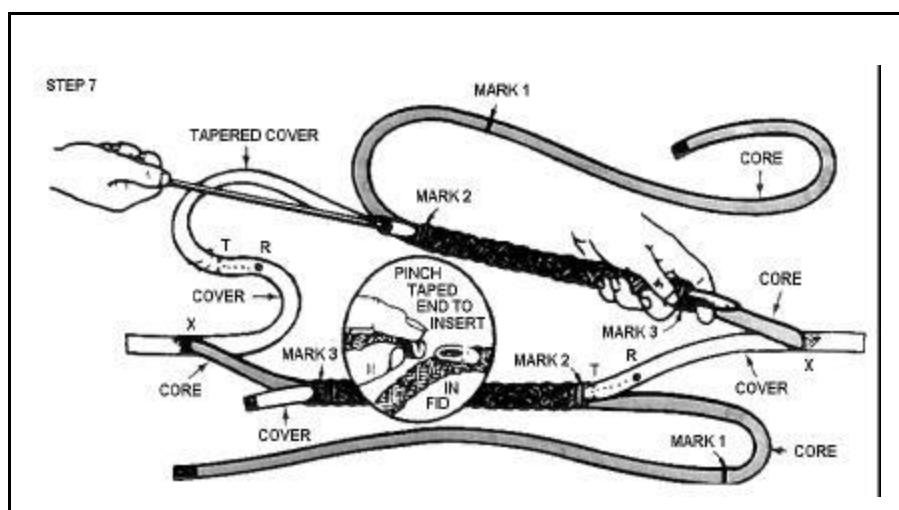

Figure 12-72. Putting the Cover Inside Core
- **STEP 7 -- Putting the cover inside core.** Insert fid into one core at Mark 2 and bring it out at Mark 3. Add extra tape to tapered cover end and jam it tightly into hollow end of fid (see Figure 12-72 insert). Hold core lightly at Mark 3, place pusher point into tapered end, pushing fid with cover in it from Mark 2 out at Mark 3. When using wire fid, attach fid to cover. Then pull fid through from Mark 2 to Mark 3. Pull cover tail through core until Mark T on cover meets Mark 2 on core. Insert other cover into core in same manner.